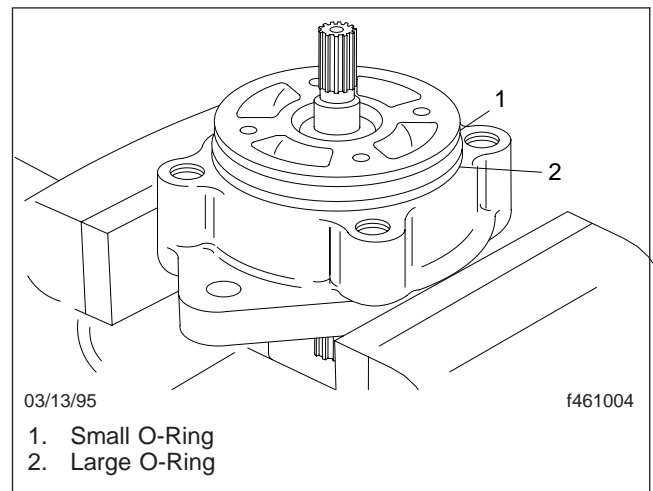

Fig. 29, Installing the O-Rings
6. Install the new large and small O-rings in the cover. Make sure that they are seated properly. See Fig. 29.